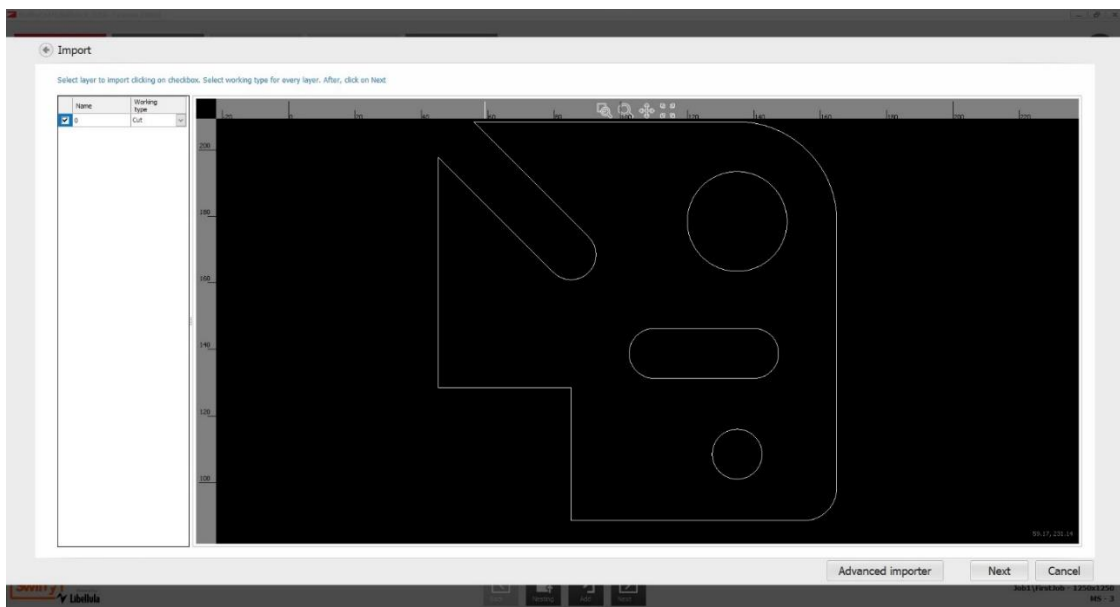

Fig 49 Working type menu
3. If the drawing file contains multiple layers, they can be selected or deselected for import (Fig 49).